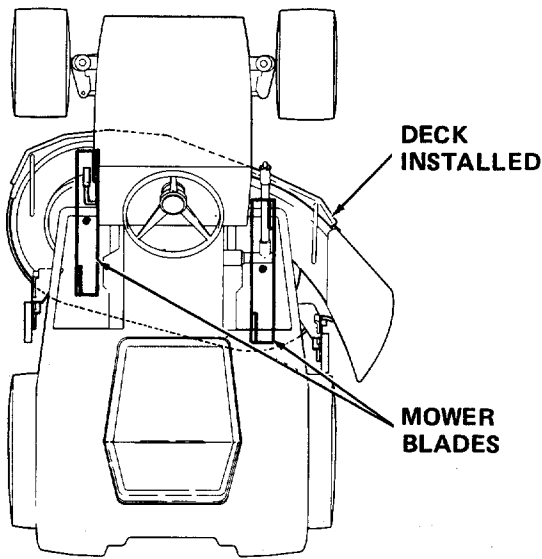

Figure 30
- Position the mower blades so that the ends of each blade face the front and rear of the tractor. (Refer to Figure 30.)